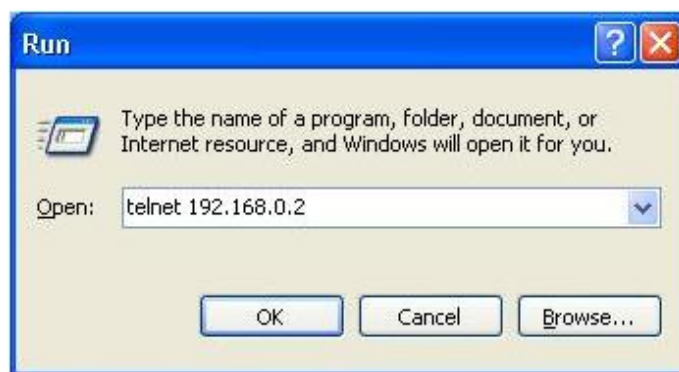

Figure 20 Access through Telnet
2. Input "*IP address*" in the browser address bar (Default IP: 192.168.0.2). After opening the login dialog box, enter the default user name (admin) and default password (123) to successfully log in to the device Web management page.
Step 2: Enter "telnet IP-address" in the Run dialog box, as shown in Figure 20. The default IP address of a Kyland switch is 192.168.0.2.